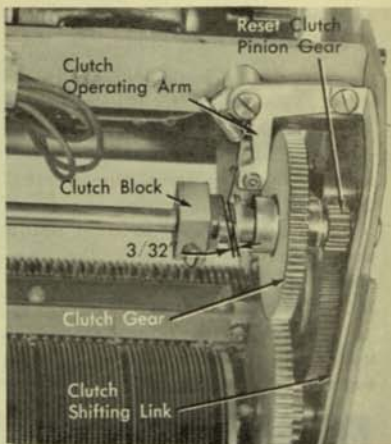

Figure 30
1. Position the clutch block on the clutch shaft so that when the floating clutch gear is pushed against the clutch pinion in a position that it will not engage, there should be $3/32''$ between the clutch block and the floating clutch gear (Figure 30).